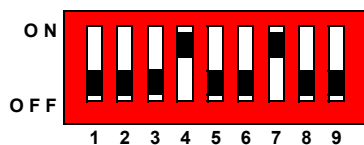

FIGURE 1. INITIAL DIP SWITCH SETTINGS
**Step 1:** Switch on bit 4 and bit 7 of the Dip-switch. Leave all other bits off, (See Figure 1.)